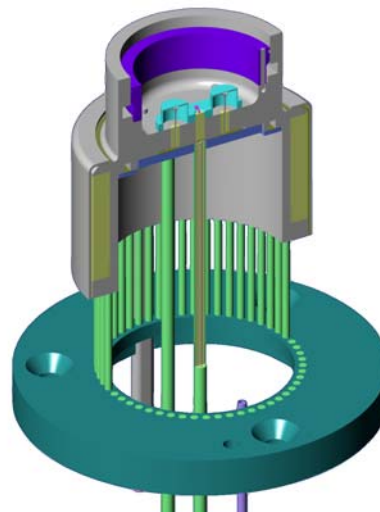

Figure 2. Q Cell cross-section
in the DSC cell that link the sample sensor to the furnace and cooling system are welded or braised. Despite the large operational temperature range of the Q Series DSCs (-180 to 725 °C), there is no slippage of bolted or clamped parts (2). Thus the cell thermal resistances that determine the baselines, thermal lags and the calibration constants are relatively invariant with respect to routine operations, and depend reproducibly on temperature (See Figure 2). Moreover, the sensor is designed such that a precision-machined vertical cylinder creates the thermal resistance that provides the measured difference in temperatures. A more common DSC alternative is a measured thermal resistance in a *horizontal* plane where the position and type of sample pan can materially affect the measurement.